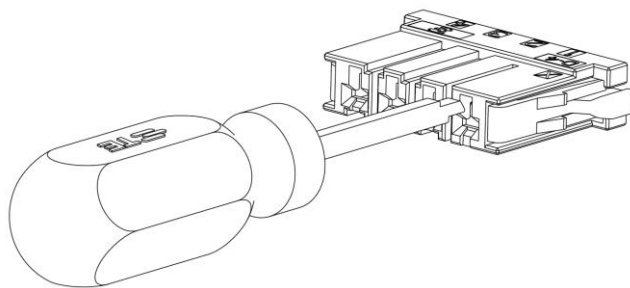
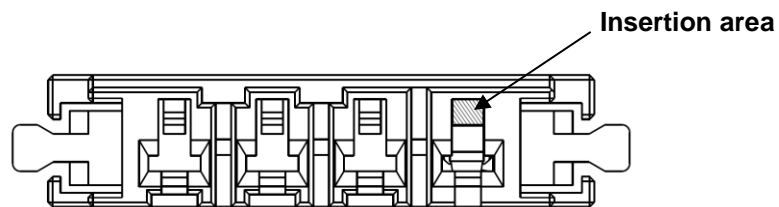

Figure 3
Figure 4
- The tool tip should go into the UPPER SLOT of the housing (see Figure 3 and Figure 4).